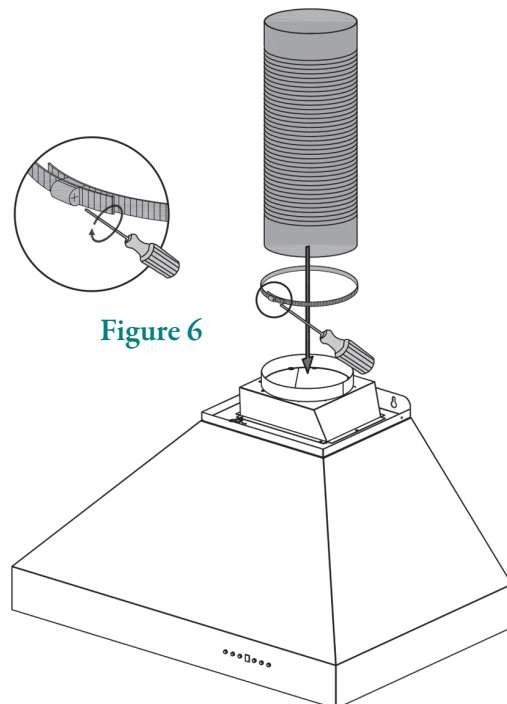

Figure 6
- 7 Connect the ducting to the transition piece using ring to hold into place. Attach ducting to the range hood. (Figure 6)